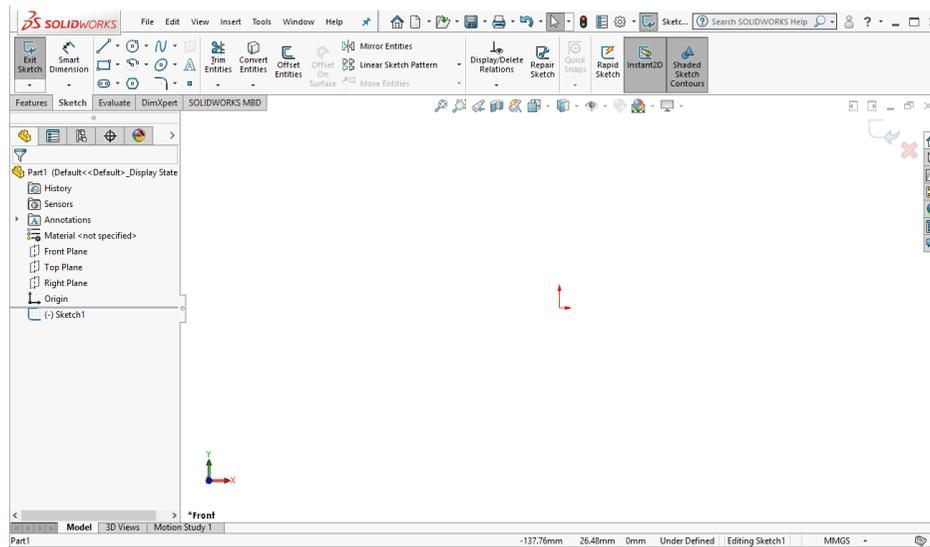

Figure 2-60 Screen display in the sketching environment
5. Select the **Front Plane** from the drawing area; the sketching environment is invoked and the plane gets oriented normal to the view. You will notice that red colored arrows are displayed at the center of the screen, indicating that you are in the sketching environment. Also, the confirmation corner with the **Exit Sketch** and **Cancel** options is displayed on the upper right corner in the graphics area. The screen display in the sketching environment of SOLIDWORKS 2018 is shown in Figure 2-60.